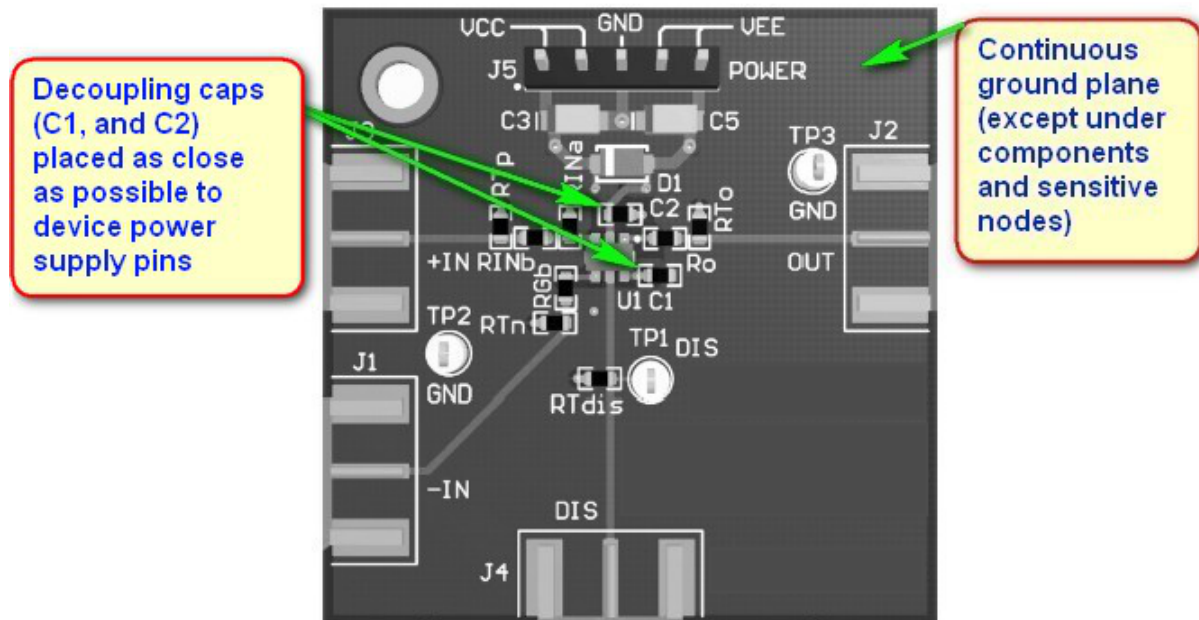

Figure 58. LM8261 Evaluation Board Layer 1
- Continuous ground planes are preferred for signal routing with matched impedance traces for longer runs. However, open up both ground and power planes around the capacitive sensitive input and output device pins as shown in Figure 58. After the signal is sent into a resistor, parasitic capacitance becomes more of a bandlimiting issue and less of a stability issue.
- Use good, high-frequency decoupling capacitors (0.1  $\mu\text{F}$ ) on the ground plane at the device power pins as shown in Figure 58. Higher value capacitors (2.2  $\mu\text{F}$ ) are required, but may be placed further from the device power pins and shared among devices. For best high-frequency decoupling, consider X2Y supply-decoupling capacitors that offer a much higher self-resonance frequency over standard capacitors.